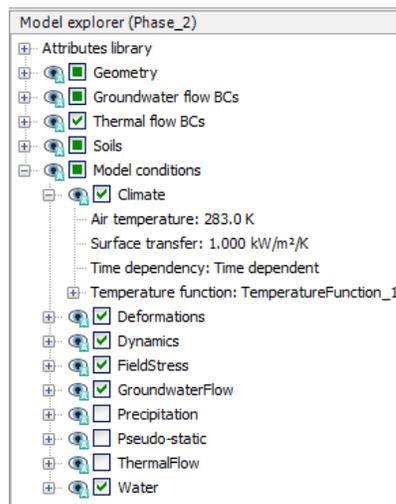

Figure 237: Model conditions for Phase_2
- 8. Expand the subtree **Model conditions** in the **Model explorer** shown in Figure 237 (on page 267).